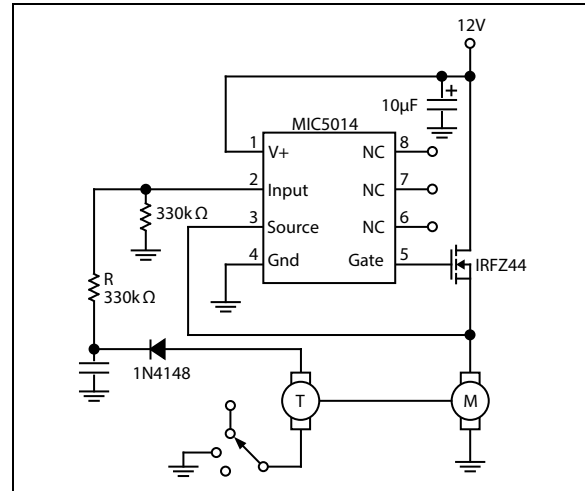

FIGURE 5-6: Motor Stall Shutdown.
- Updated Figure 5-6 and Figure 5-7.